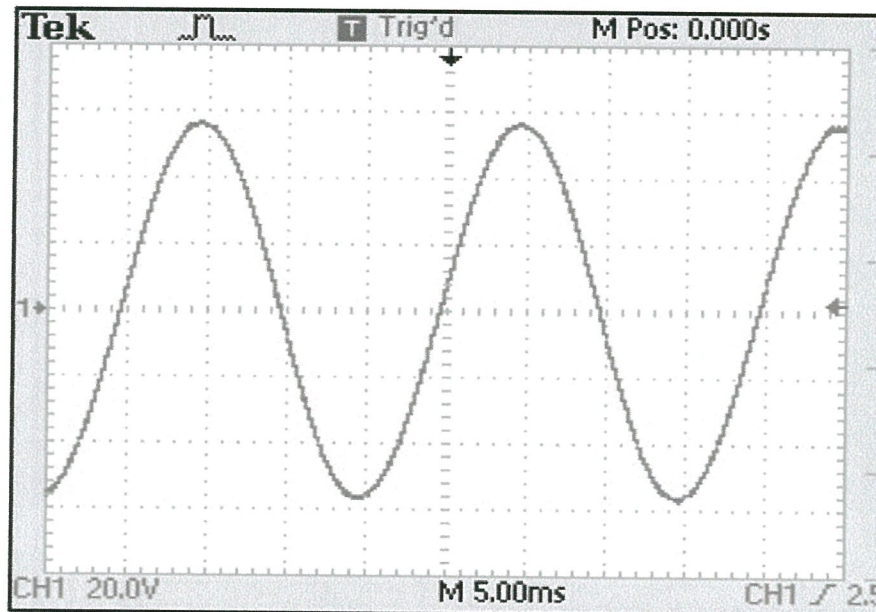

Figure Q3(c)
- Q3** (a) State **four (4)** advantages of digital oscilloscope (2 marks)
- (ii) Describe the purpose of **three (3)** elements of these subsystems. (6 marks)
- (c) **Figure Q3(c)** is a voltage waveform display of an oscilloscope;
- (ii) TIME/DIV and VOLTS/DIV in **Figure Q3(c)** is adjusted to 10 ms/DIV and 50 V/DIV respectively. Sketch the waveform generated and discuss the answer given. (6 marks)
- (c) (i) Name **two (2)** types of internal noise source (2 marks)